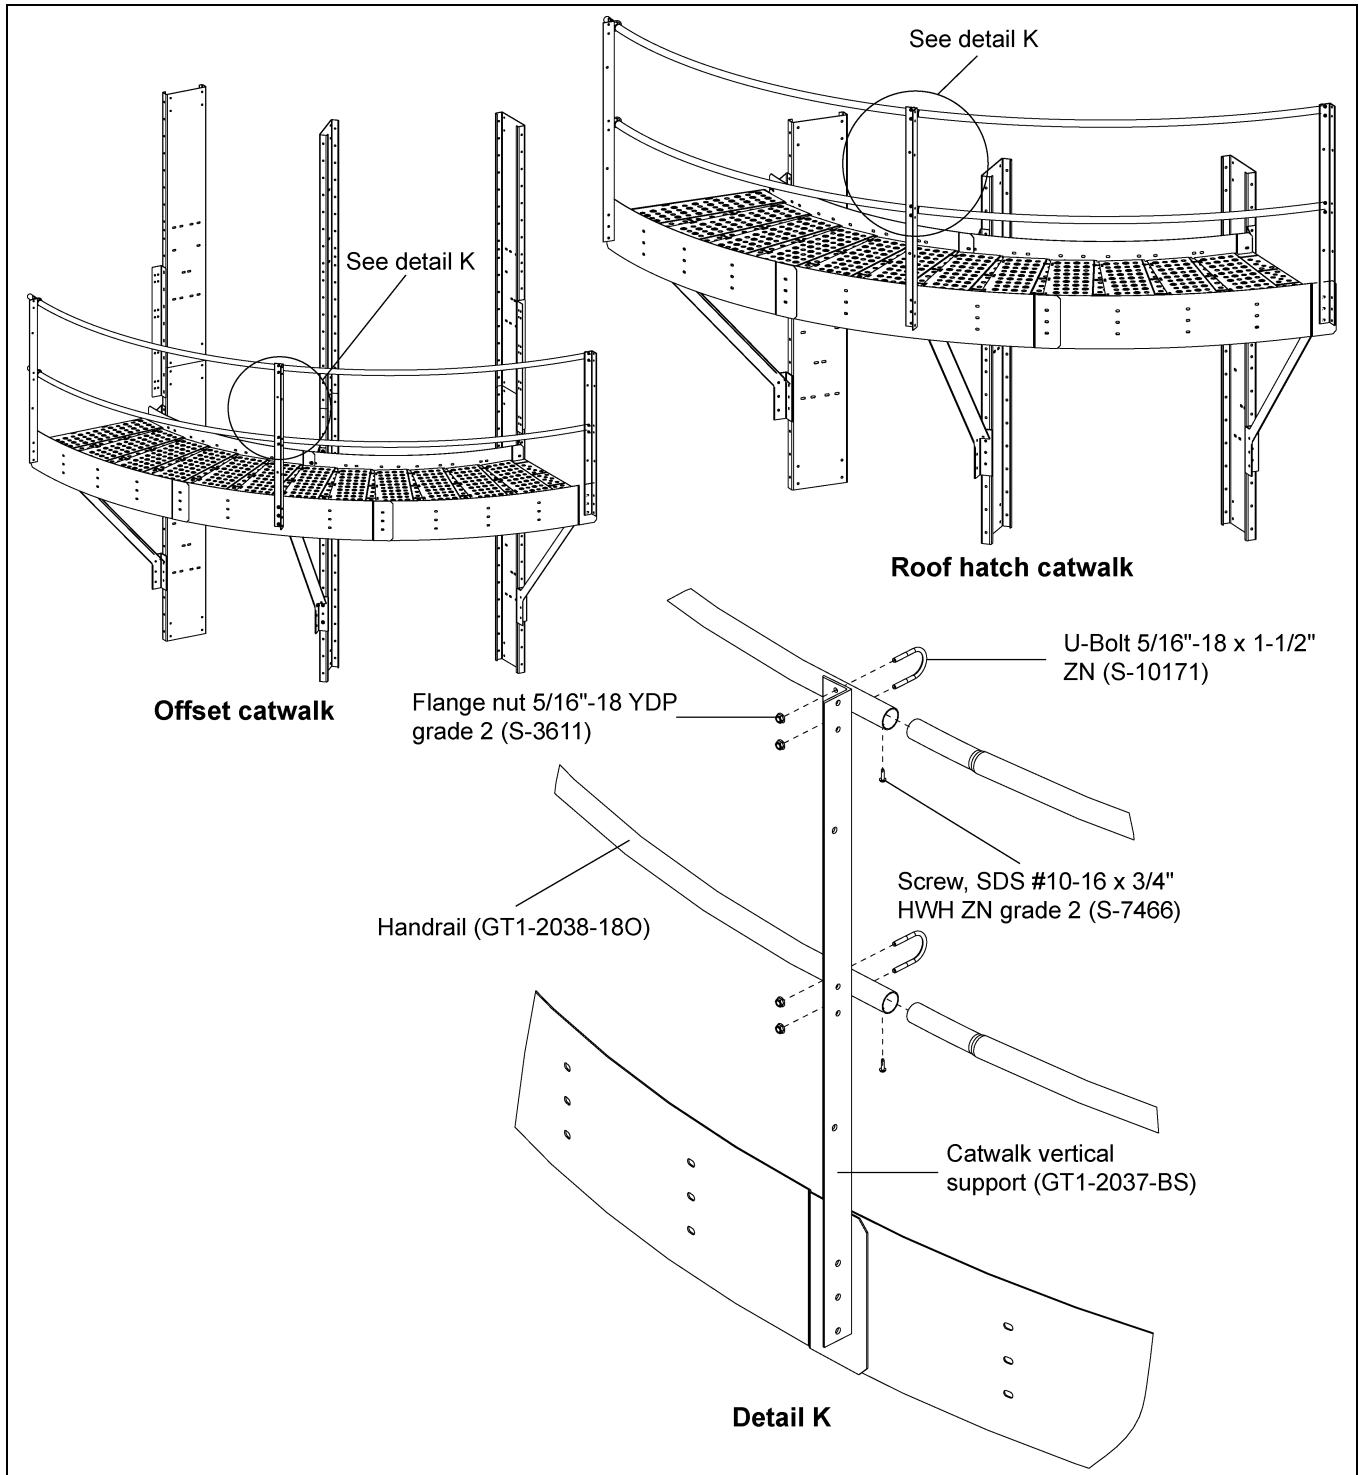

Figure 6U Handrail (GT1-2038-180) Installation for Offset and Roof Hatch Catwalks
1. Install the long handrail (GT1-2038-180) to the catwalk vertical support (GT1-2037-BS) using 5/16"-18 ZN U-bolts (S-10171) and 5/16"-18 YDP grade 2 nuts (S-3611) to tighten the handrail with vertical post. (See Figure 6U.)
2. Use the self-tapping screw SDS #10-16 x 3/4" HWH ZN grade 2 (S-7466) at all handrail pipe joints. (See Figure 6U.)